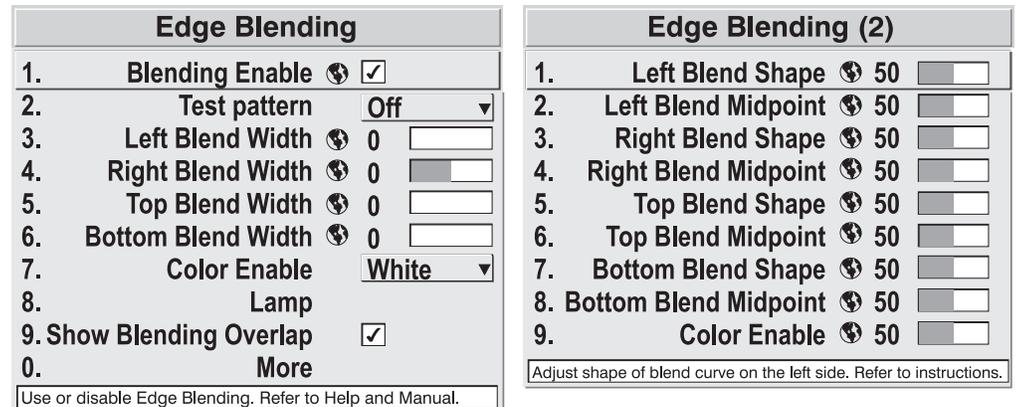

Figure 3.38. Set Starting Points for Each Projector
3. SET STARTING POINTS FOR ADJUSTMENT (Figure 3.38):
- Go to "More" and set everything in the *Edge Blending (2)* menu to 50.